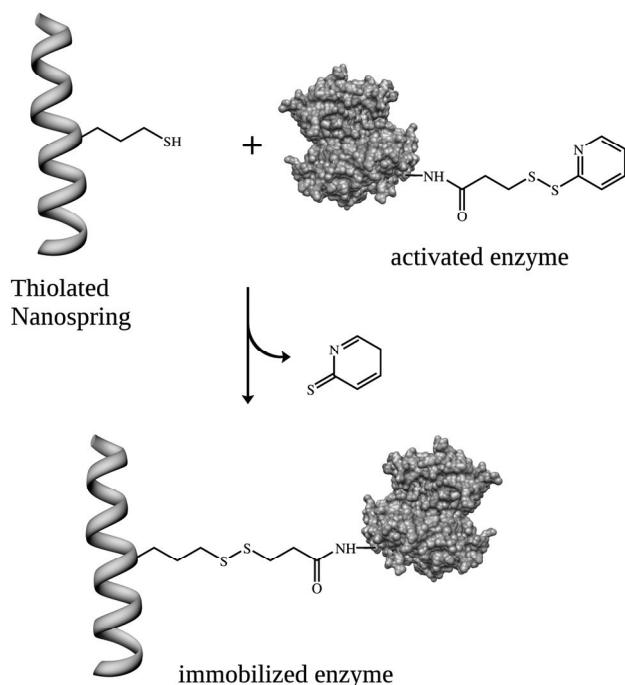

Figure 3. Attachment of modified enzyme to Nanosprings.
7. Apply the SPDP-modified enzyme by slowly pumping it through the reactor (suggested flow rate: 0.1 mL/min). This allows the crosslinker on the enzyme to react with the free sulphydryls on the Nanospring surface, resulting in a covalently attached enzyme (Fig 3). To quantify enzyme loading, aliquots of the enzyme solution can be taken before and after passing through the reactor.